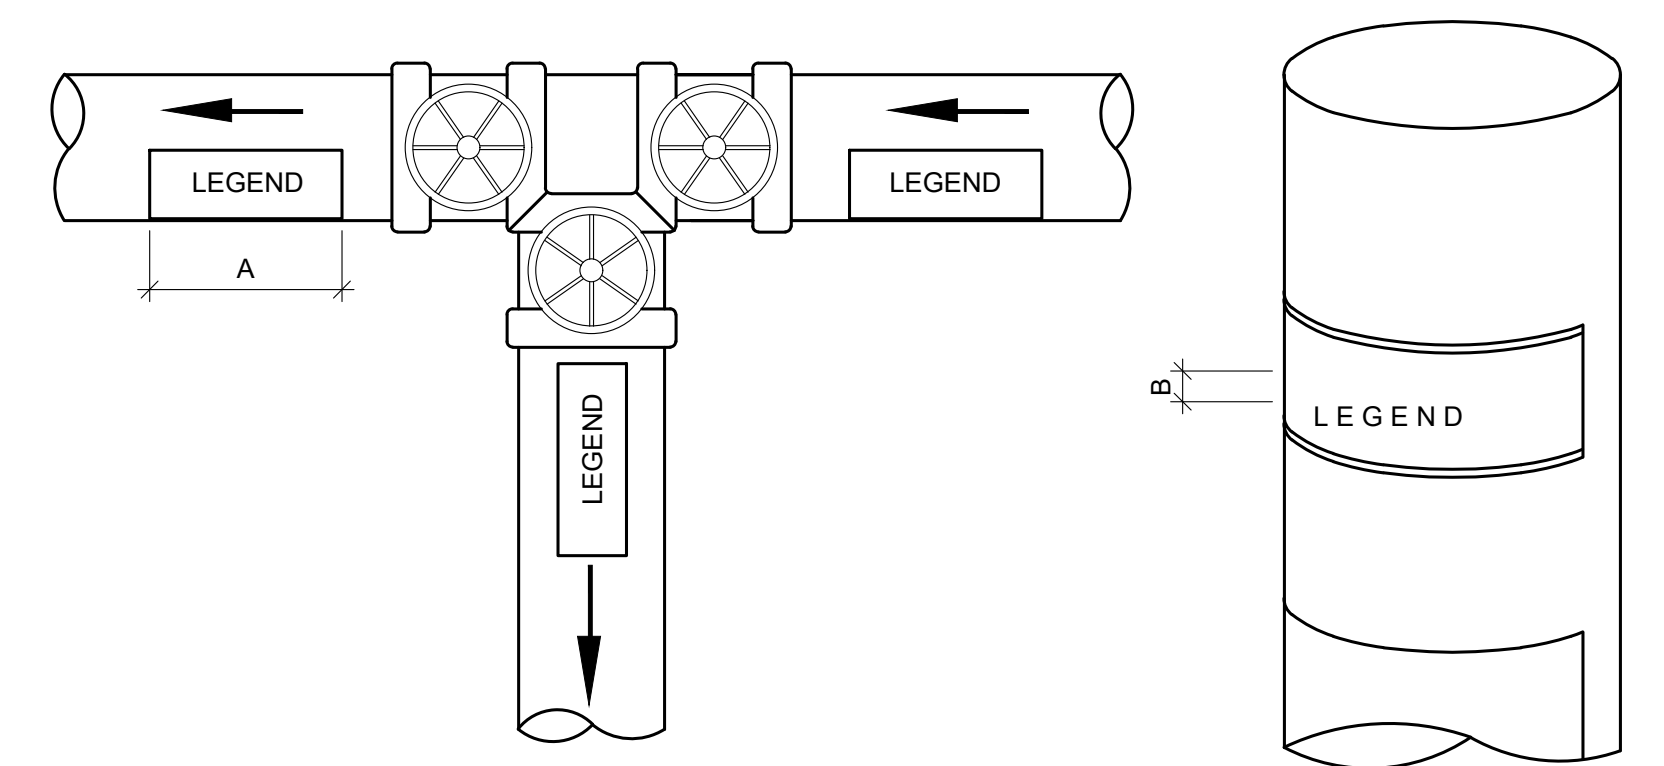

FIGURE 3: TYPICAL LEGEND LABELING DETAIL
- MIXED STORAGE AREAS SHOULD BE LABELED BY NFPA STANDARDS TO THE HIGHEST HAZARD MATERIAL AT THAT LOCATION. FOR EXAMPLE, IF ALKALINE CLEANER AND RECOVERED DIESEL FUEL #2 ARE PRESENT IN THE SAME AREA, THEN THE NFPA LABEL(S) ON THE BUILDING SHOULD READ FOR HEALTH-1, FLAMMABILITY-2 AND REACTIVITY-0.
- FUNCTIONAL MARKINGS, SIZED PER TABLE 2, AND HAVING LEGEND AND FIELD COLORS PER TABLE 3, SHOULD BE PLACED FOR MAXIMUM VISIBILITY. FUNCTIONAL MARKINGS MAY BE PREPARED IN THE FIELD OR MANUFACTURED STANDARD PIPE IDENTIFICATION PRODUCTS MAY BE USED. LEGENDS SUCH AS "SURGE TANK," "USED OIL TANK," "SLUDGE" ARE APPROPRIATE. ALL PIPING EXCEPT THAT WHICH IS BURIED UNDERGROUND SHALL BE IDENTIFIED WITH LEGENDS APPLIED TO PIPING AT EACH PASSAGE THROUGH A WALL, CEILING OR FLOOR, ADJACENT TO EACH VALVE, AT EACH CHANGE IN DIRECTION, AND AT NOT MORE THAN 40 FEET SPACING ON STRAIGHT PIPE RUNS (SEE FIGURE 3).